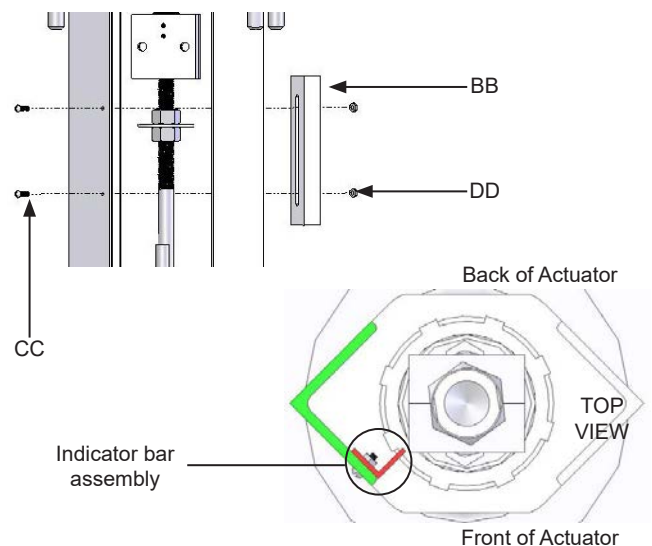

Figure 57. Indicator Bar Assembly (Cylinder and Spring Cartridge hidden for clarity)
19. Fasten INDICATOR BAR (BB) to HOUSING ASSEMBLY (J), using 2, ROUND HEAD MACHINE SCREWS (CC), and 2, HEX HEAD JAM NUTS (DD), but tighten the NUTS (DD) hand-tight only. Finished assembly should resemble the top view of figure 57.